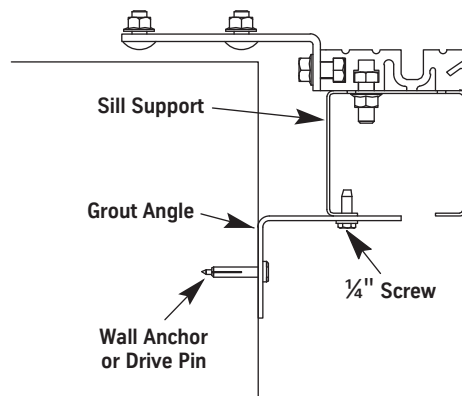

Figure 36 - Grout Angle Installation
1. Use self-tapping screws to install the grout angle on the bottom of the sill support and also tight against the hoistway wall. See Figure 36.